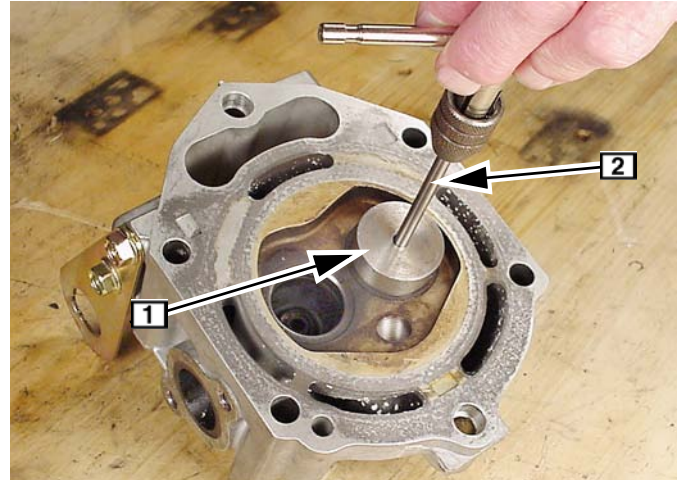

Fig. 86
2. Use reamer pilot guide, Tool #19345 **1** and finish reamer, Tool #19444 **2** and ream new valve guide, Fig. 86.